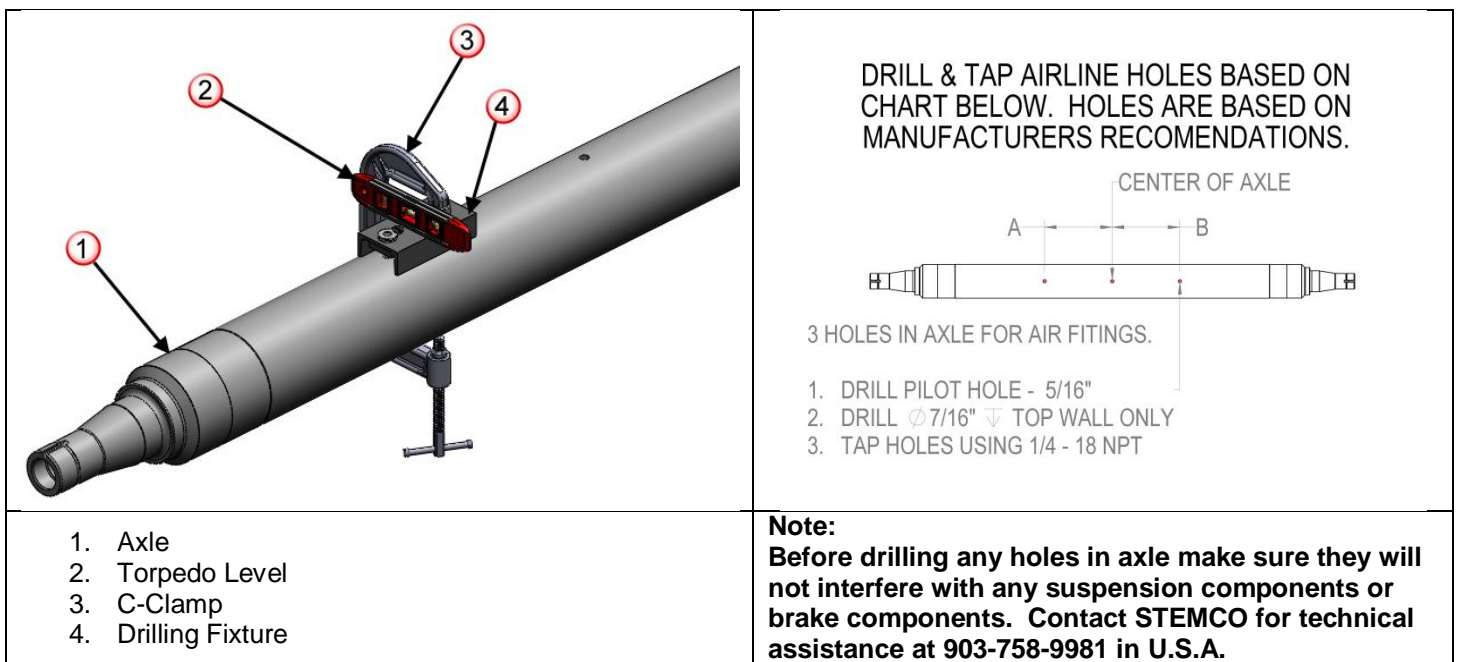

Figure 5
- Drill holes using the drill fixture (Figure 4) to facilitate drilling and tapping of holes for the three air fittings. Use a level to align the fixture and a c-clamp to hold fixture in place (figure 5). Use lubricant for drilling and tapping the holes.
- Use either an angle drill or standard drill where room permits. With drill fixture is in place (Figure 5) insert the 5/16" drill bushing in fixture and drill a pilot hole using a 5/16" drill bit. Next insert the 7/16" bushing and drill the hole using a 7/16" drill bit. Next insert the 9/16" bushing in fixture and using a 1/4-18 NPT, tap the hole. Repeat procedure on all 3 holes in each trailer axle.